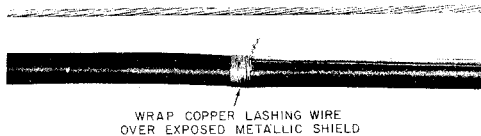

Fig. 45—Ground Wire Lashed in Place
- (f) Tightly wrap copper lashing wire over ground wire loop and exposed metallic shield as shown in Fig. 45.